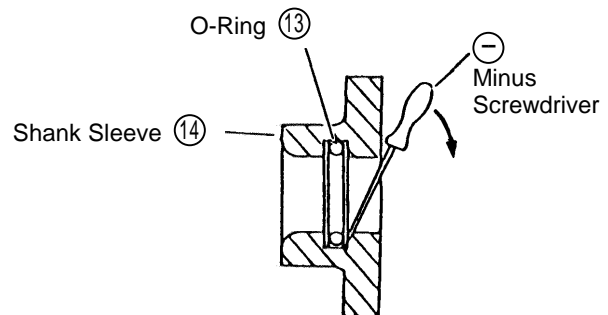

Fig. 6
(5) Removal of O-Ring (E) (13):
As O-Ring (E) (13) is installed in the inner portion of the Shank Sleeve (14), it may be difficult to remove. As illustrated in Fig. 6, pry O-Ring (E) upward gently with a small minus screwdriver, being very careful not to damage the surface of the O-Ring.
(6) Removal of the Striker (23) and Related Parts: